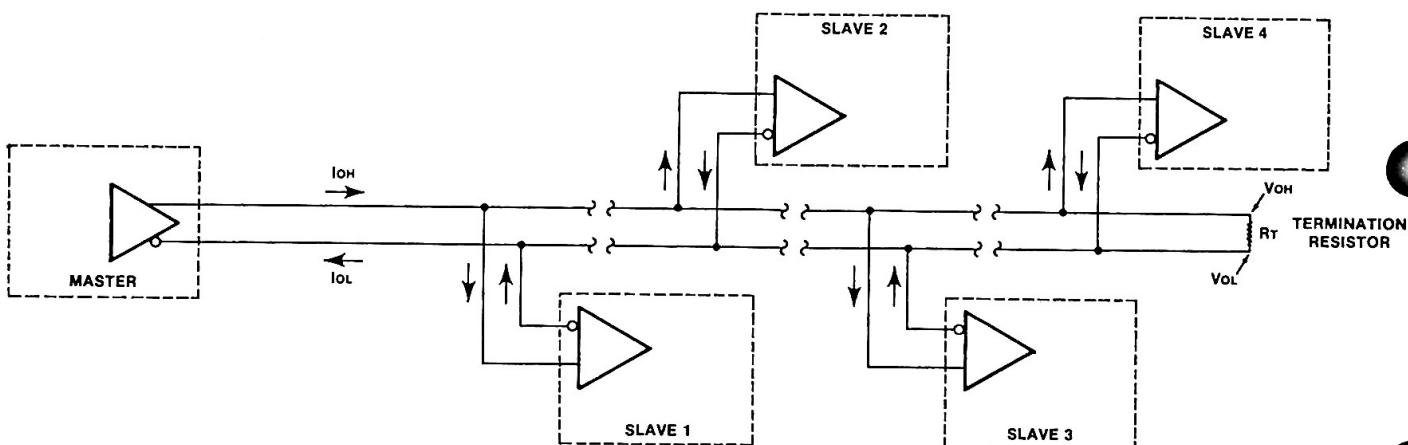

Figure A-9. System Example – Termination Resistance
- 2) As an example to calculate the termination resistance (R_T), assume that the system being configured contains four slaves, as shown in Figure A-9.